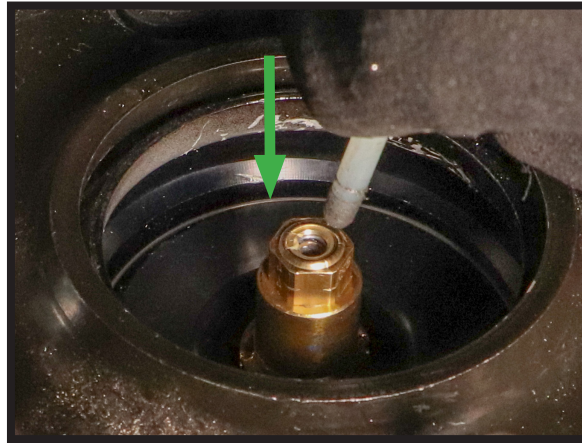

FIGURE 36
10. REINSTALL THE AIR LINE. PUSH THE AIR LINE INTO THE NEW AIR FITTING UNTIL IT IS SEATED COMPLETELY. PULL GENTLY ON THE AIR LINE TO ENSURE IT IS FULLY SEATED IN THE AIR FITTING. (FIGURE 36)